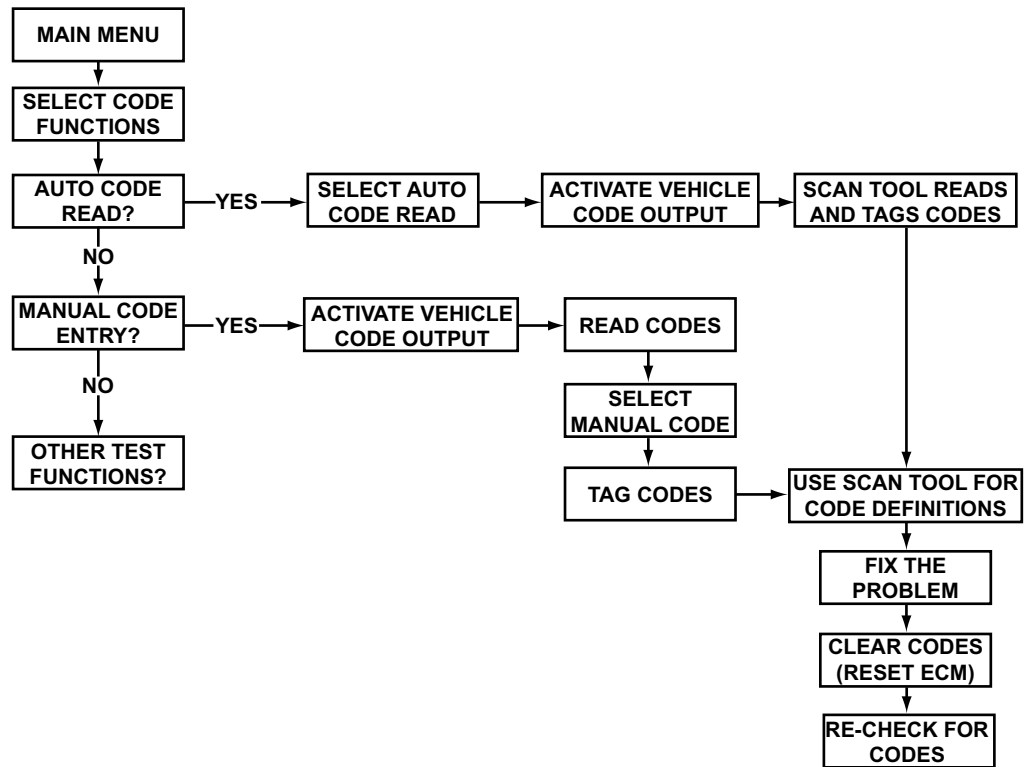

Figure 3-28 Basic Code Functions: Auto Code Read and Manual Code Entry
- **AUTO CODE READ** reads all available electronic codes automatically (Figure 3-28).
- **MANUAL CODE ENTRY** lets you read codes that can be identified by visual observation of a flashing lamp (LED) and manually entering data into the scan tool (Figure 3-28).